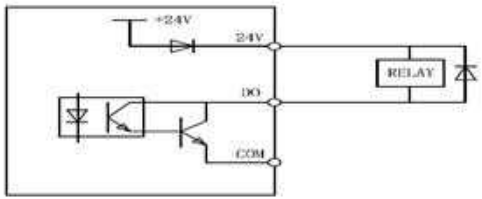

Figure 2-11 On-off output connection mode 1 of multi-function output terminals
1) Multi-function output terminals DO as discrete output can use the internal 24V power supply of inverter and the wiring method is shown in Figure 2-11.